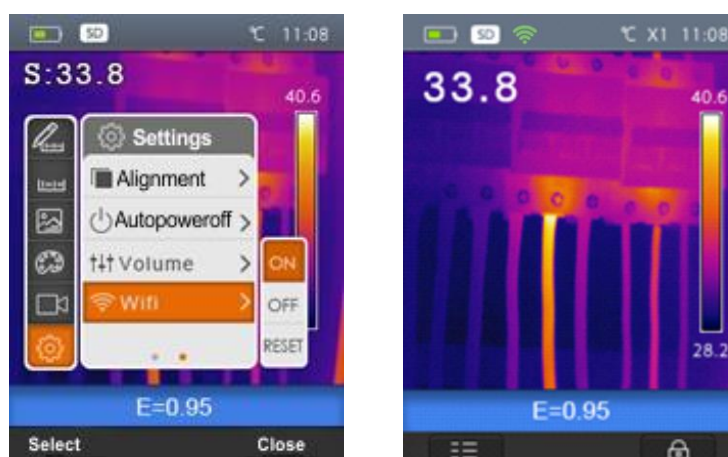

Fig. 16: WiFi connection setting
1. Select the “WiFi” item using the keys  or  and press the key . The screen of Fig. 16 – left side is shown on the display
2. Use the keys  or  to set the option “ON” (enable -  symbol is displayed as shown in Fig. 16 – right side) or “OFF” (disable)